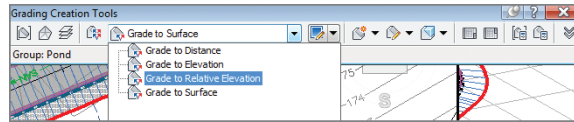

FIGURE 17.11 Selecting grading criteria on the Grading Creation Tools toolbar
5. Expand the criteria list, and choose Grade To Relative Elevation, as shown in Figure 17.11.